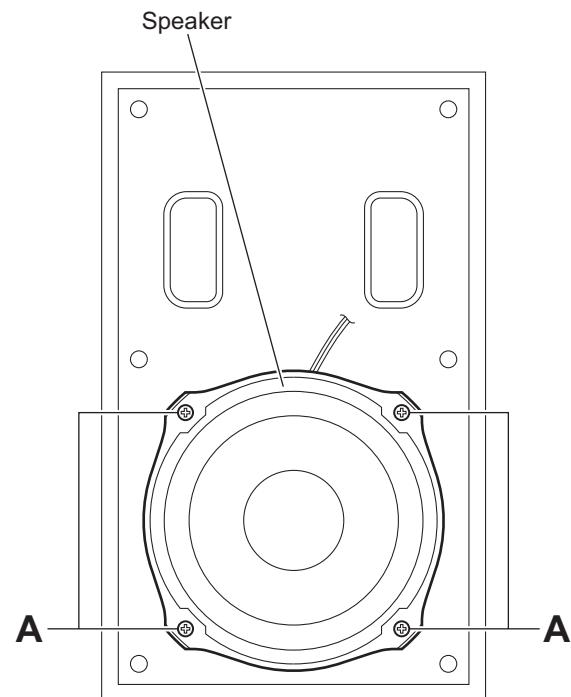

Fig.5
(See Figs.5 and 6)
- (1) From the front side of the speaker main body, remove the four screws **A** attaching the speaker. (See Fig.5.)